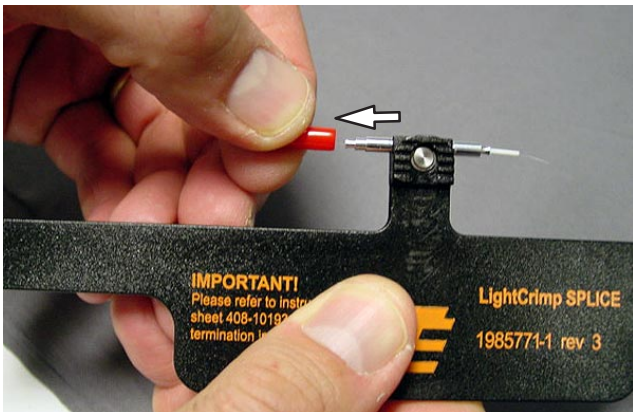

Figure 42
4. Remove the cap from the splice on side B. See Figure 42.